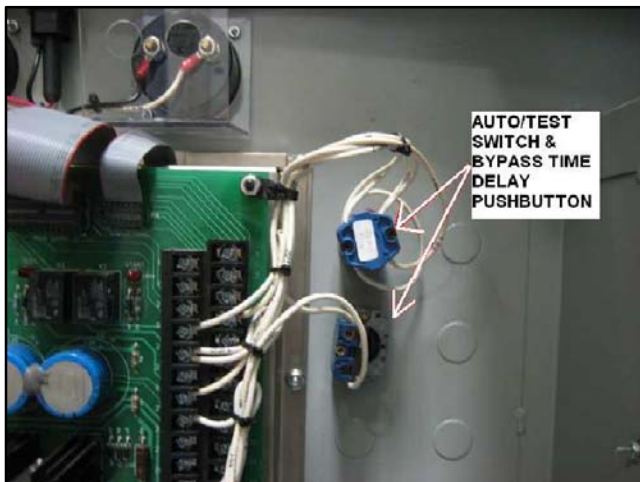

Figure 12 Disconnect the AUTO/TEST Switch and Bypass Time Delay Button
10. Disconnect the AUTO/TEST switch and the bypass time delay pushbutton. See Figure 12.